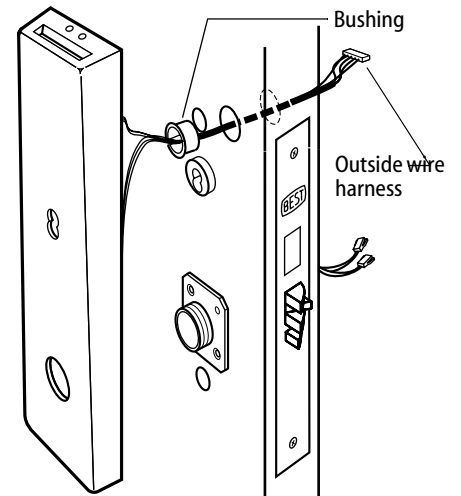
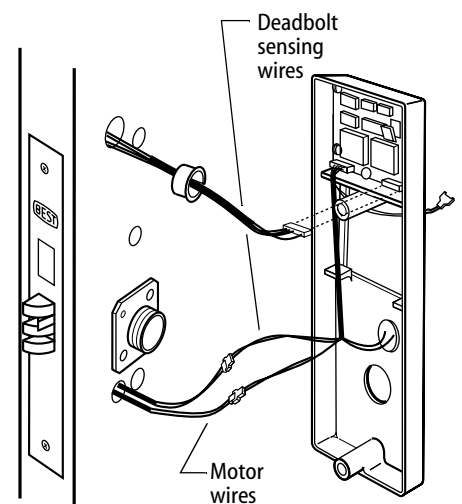

Figure 10
Figure 11
- 1 Insert the bushings into the wire hole as shown in Figure 10 and Figure 11.
- 3 Feed the outside wire harness connector through the top wire hole as shown in Figure 10.
- 5 From the inside of the door, connect the motor connector and the optional deadbolt sensing connector to their mating connectors from the circuit board as shown in Figure 11.